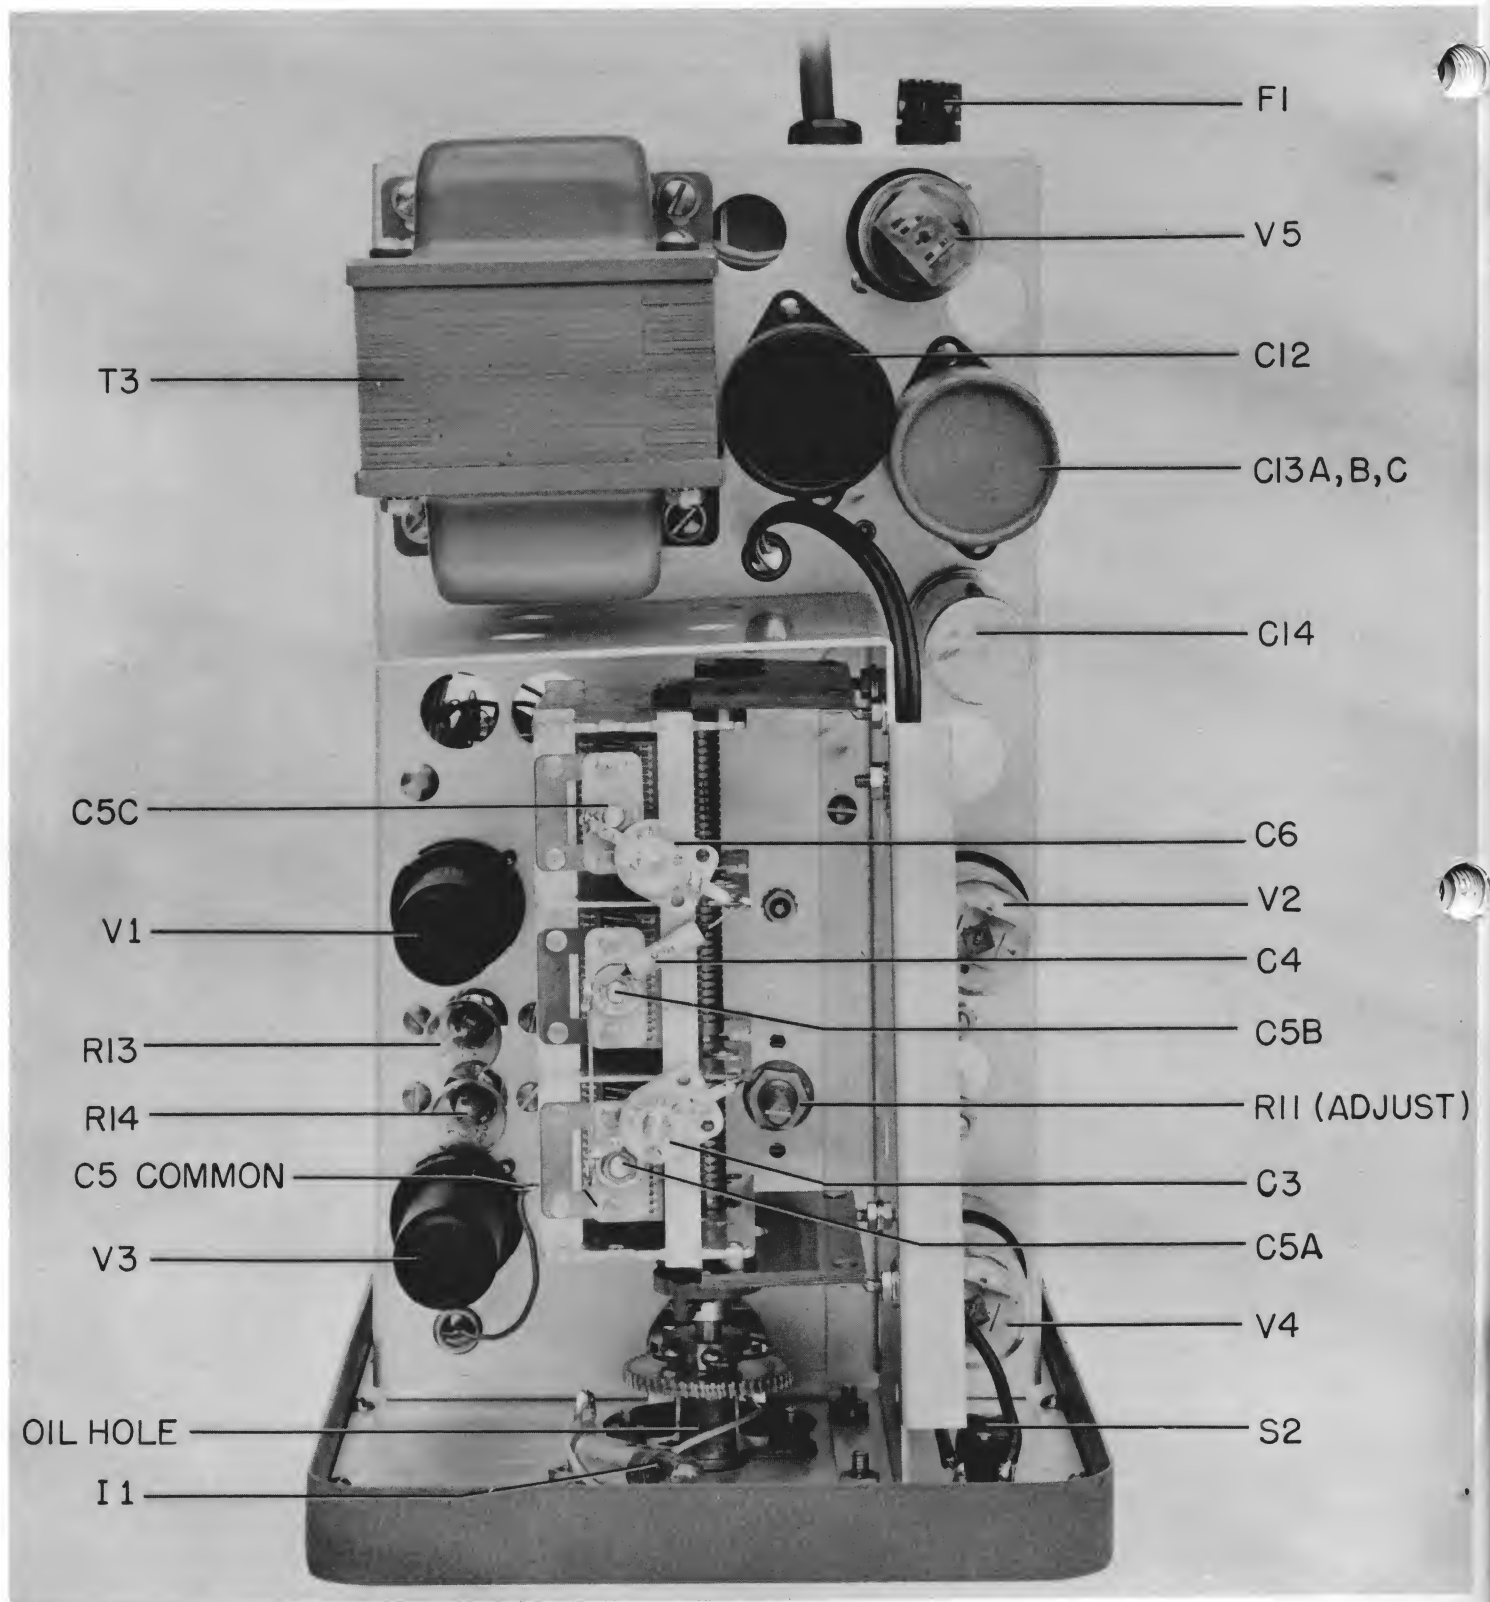

Figure 4-2 Model 200CD Top View Cover Removed
2) With alignment tool, adjust either trimmer (C3 or C6 [Figure 4-2]) to bring "60" on calibration. (Seldom necessary to adjust both trimmers.)